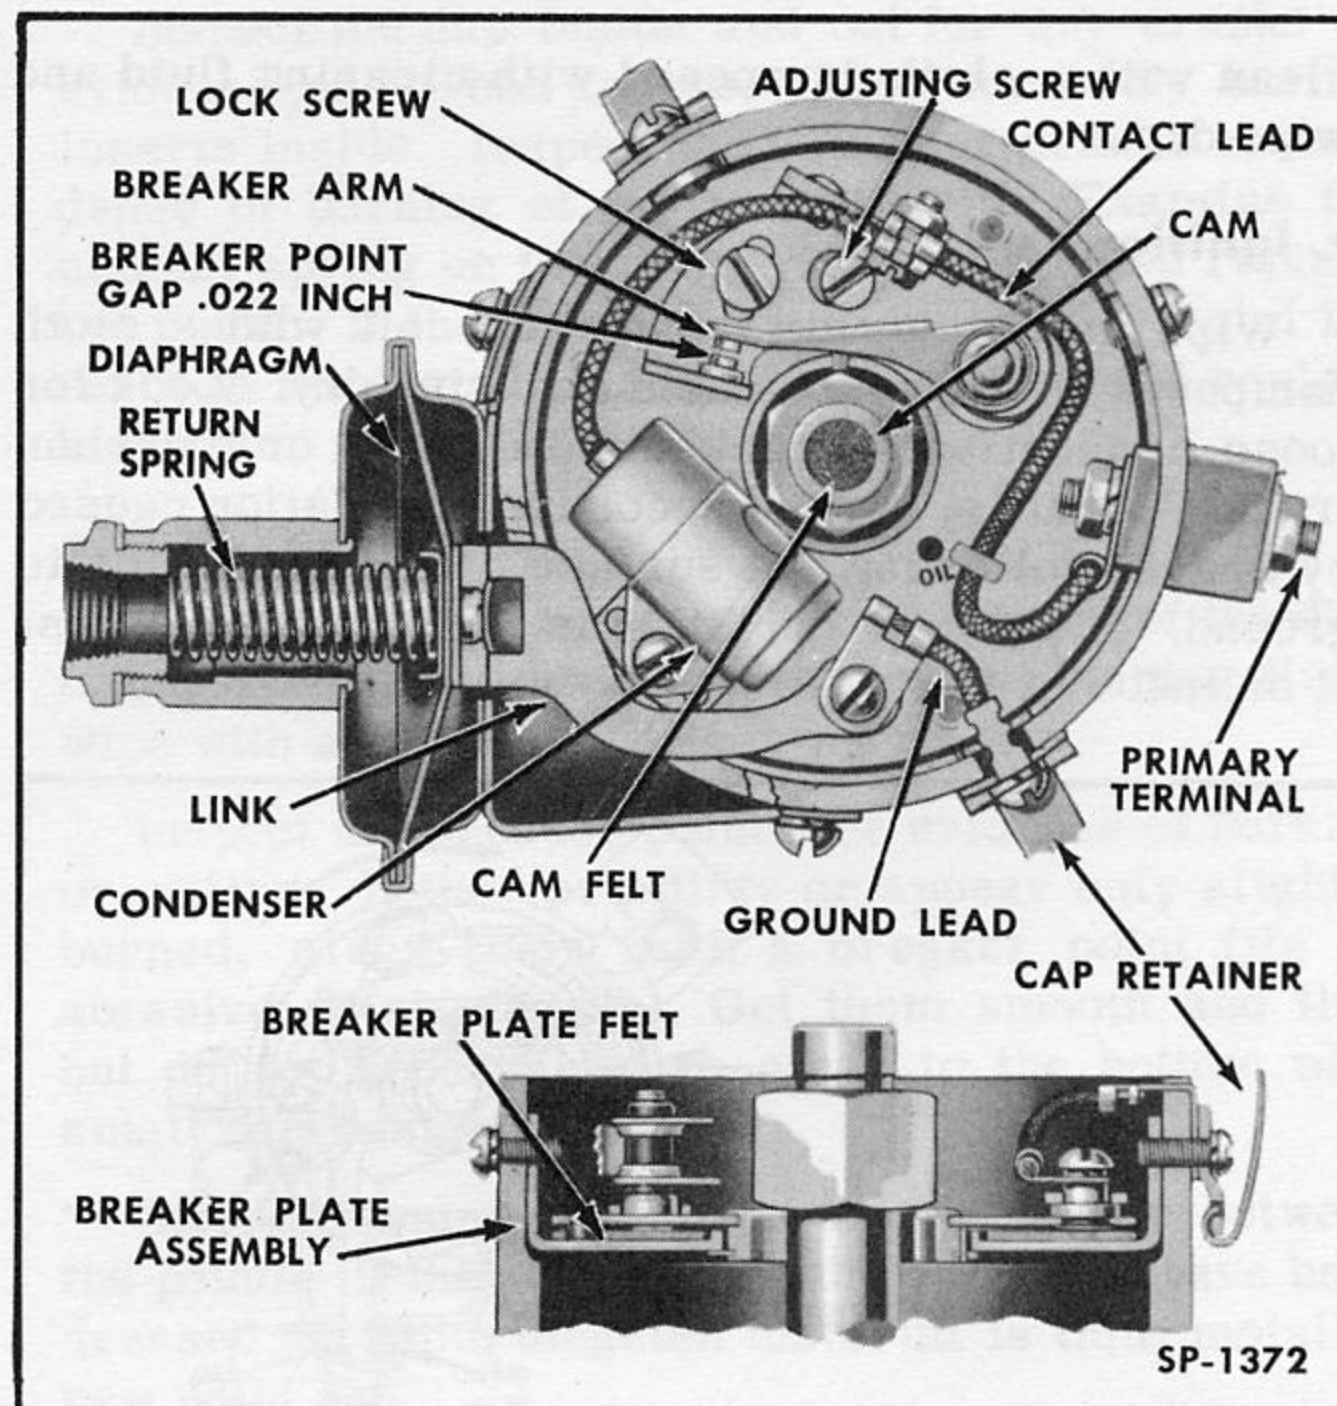
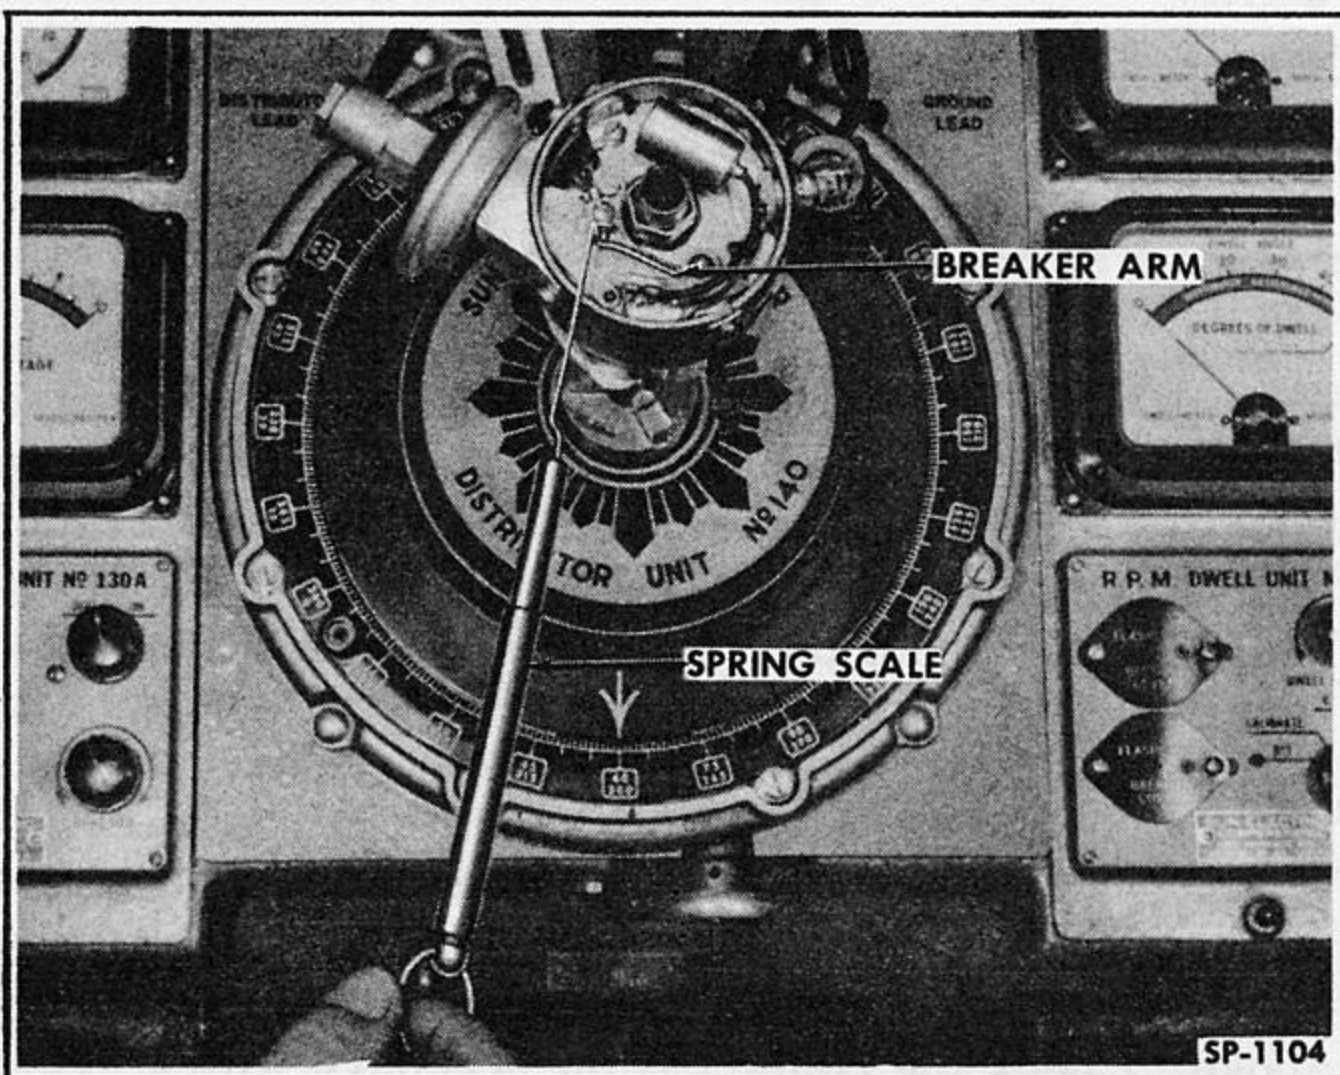

Fig. 290—Delco-Remy Distributor—Cap and Rotor Removed (6 Cylinder Shown)
Fig. 295—Checking Breaker Arm Spring Tension
2. BREAKER POINT REPLACEMENT. With the cap and rotor off, remove the breaker arm spring clip and clip screw, and the condenser pigtail and contact lead terminals. (See Fig. 290 and 292). Then lift the breaker arm from the pivot or stud and at the same time lift the breaker arm spring end from the bracket. Remove the lock screw and lift the stationary contact point and bracket from the eccentric screw. Install new breaker points and lubricate the pivot and the cam as directed in Section 17, "Lubrication." Adjust the points as directed under "Breaker Point Adjustment" above. Check the contact point pressure with a scale calibrated in ounces such as Spring Tension Checking Scale MTU-36. Hook the scale over the breaker arm at the contact point and pull at right angles to the contact surface (Fig. 295).